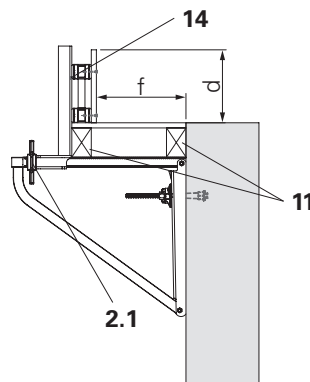

Fig. A2.04
- Mount the formwork and fix it in place with screws 5 x 20 (**14**). (Fig. A2.04)